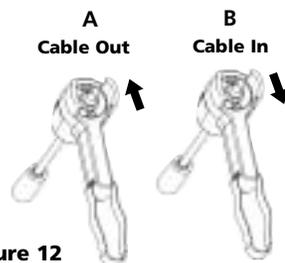
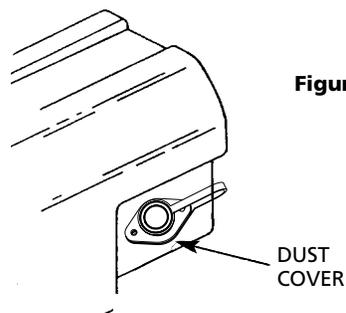
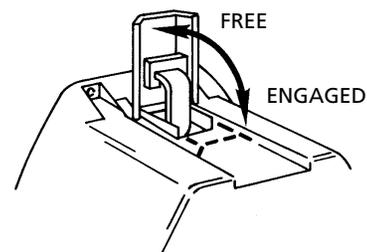

Figure 12
Figure 13
Figure 14
Lift the freespool clutch lever to the "Free" position. Pull several feet of wire rope off the drum. Return the clutch lever back to the "Engaged" position. Plug in the remote pendant control. Switch the slide lever to the "Rope Out" position. Pull the trigger momentarily to check wire rope drum rotation and direction. If the drum rotates in the wrong direction, recheck your wiring. The Hand-held pendant switch activates a solenoid that activates power to the winch motor. One solenoid is for "Rope Out" motor direction and the other is for the "Rope In" motor direction (Fig. 12).
The handheld pendant switch activates a solenoid that activates power to the winch motor. To connect the pendant control, remove the cover on the plug receptacle (Figure 13) and insert the plug end of remote switch. The plug on the pendant control cord is keyed and will fit into the socket only one way. The switch trigger returns to the "Off" position when released. To change direction, move the toggle in the other direction. (Fig.12)
Lift the clutch lever to the "Free" position as shown in Figure 13. If there is a load on the wire rope, the clutch lever may not turn easily. **DO NOT FORCE THE CLUTCH LEVER.** Release tension on the wire rope by jogging out some of the wire rope. Releasing the clutch and pull out the wire rope and secure to anchor or load. Check that there are at least five (5) turns of wire rope left on the drum. Re-engage the drum by returning the clutch lever to the "Engaged" position (see Figure 14).